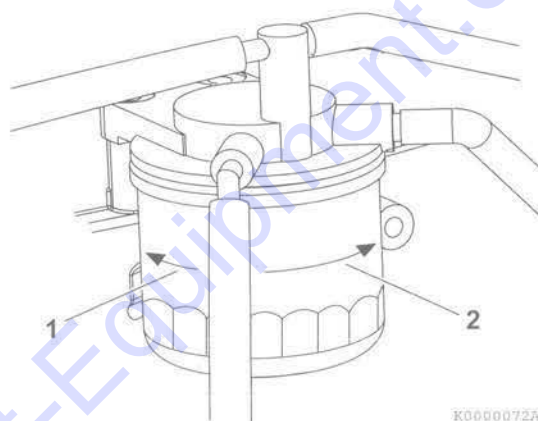

Figure 16
3. Remove the fuel filter using a filter wrench to turn it to the left (1, **Figure 16**). When removing the fuel filter, carefully hold it to prevent the fuel from spilling. Wipe up all spilled fuel.
5. Install the new fuel filter. Hand-tighten it to the right (2, **Figure 16**) until it comes in contact with the mounting surface. Use a filter wrench and tighten to 14 - 17 ft-lb (19.6 - 23.5 N·m, 2.0 - 2.4 kgf·m) or one additional turn using the filter wrench.